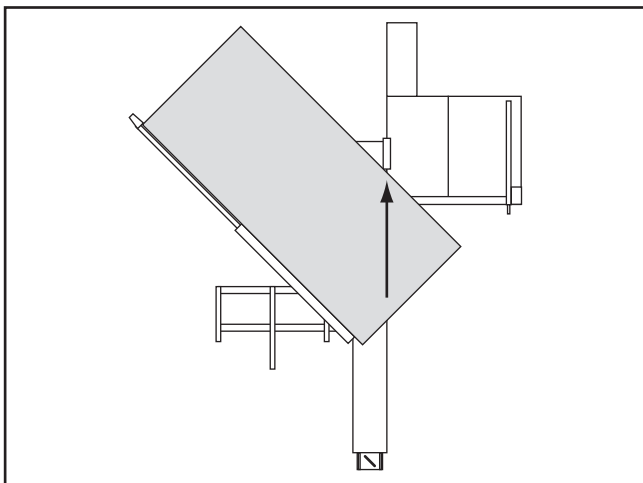

Figure 90. Crosscut fence positioned for miter cuts from 0° to 90°.
—For miter cuts from 0° to 90°, insert the fence pivot stud into the rear hole and angle the fence forward, as shown in **Figure 90**.
5. Position the flip stop for the desired width-of-cut, then load the workpiece onto the table. The set up should look similar to **Figures 90–91**.